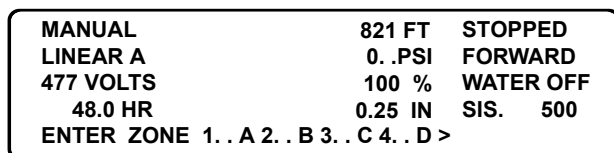

Figure 70-3
6. Press the correct number key to select the pivot zone that the machine will be operating within. See Figure 70-3.
Select a Zone 1=A, 2=B, 3=C 4=D. See Figure 70-3.